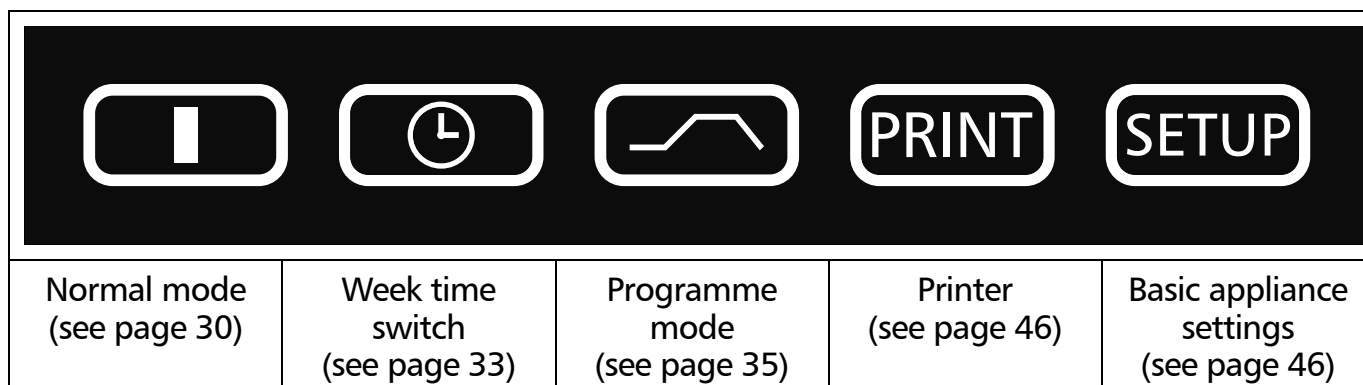

Fig. 22 Operating modes
- 2 Operating mode display (see Fig. 22 on page 30)